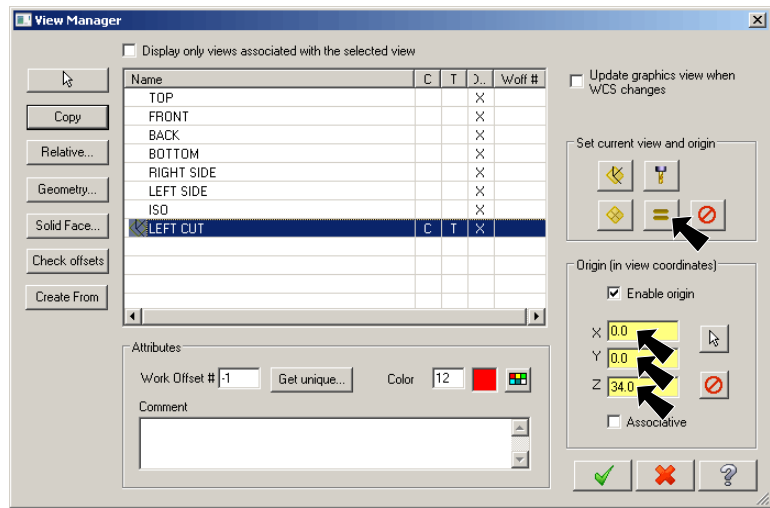

Fig. 69
Origin Z to 34, Fig. 69.
- Step 6. Click the **Set All** button , **Fig. 69**.